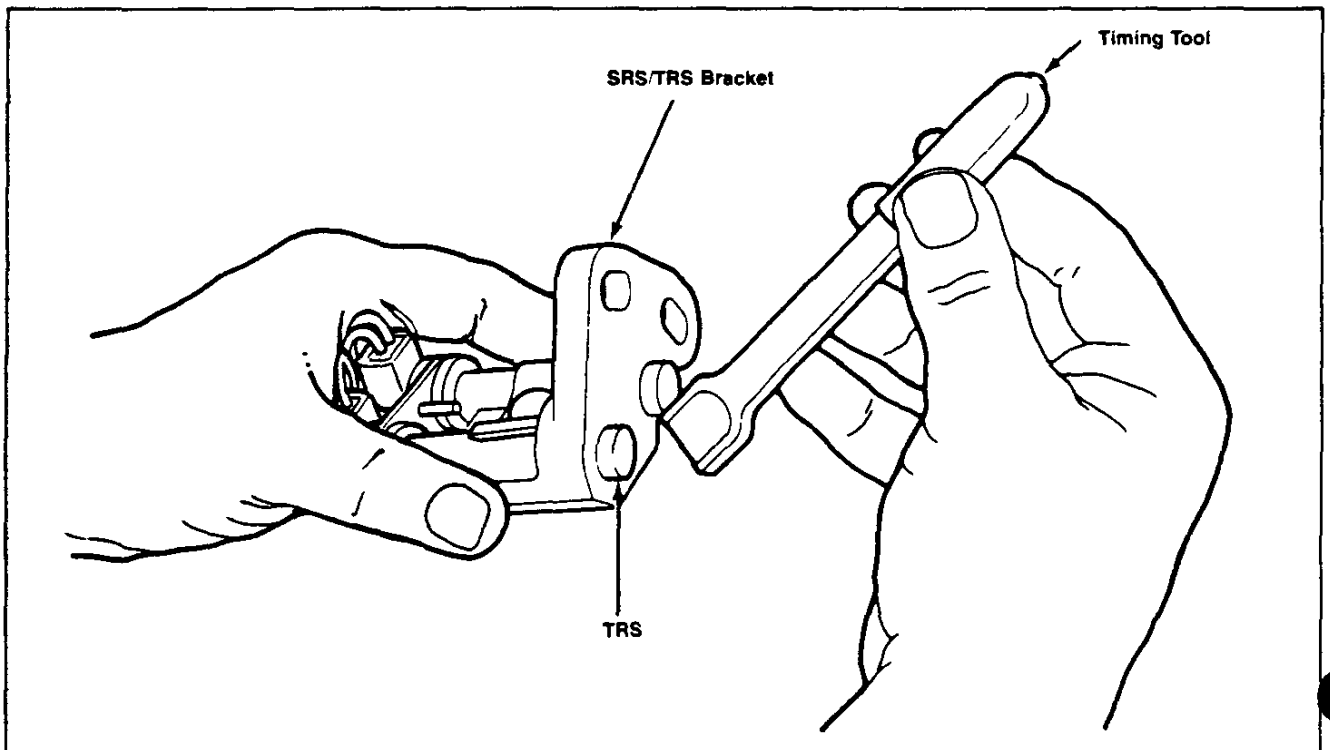

Figure 15
3. This operation is necessary if the sensor bracket has been loosened from its original mounting position. If the sensor bracket has not been loosened, go to Step 5. Position the SRS/TRS bracket so that the round end of the TRS is located in the half moon portion at the front of the Timing Tool as shown in Figure 15.